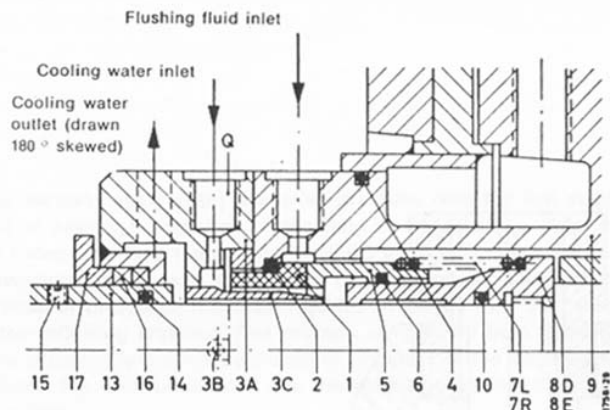

Fig. 4d
5. Standard type as No. 3 above, plus cooling jacket (Fig. 4d)
In order to dissipate more effectively the frictional heat generated between the rings in seals Nos. 5 and 6 (Fig. 4d), a supply of cooling water is provided, and here the water enters the seal at Q, flows between the carbon ring and the coolant sleeve 3C to the faces in rubbing contact, and then back along the shaft to the outlet. Only clean water should be used, not liable to form any deposits.